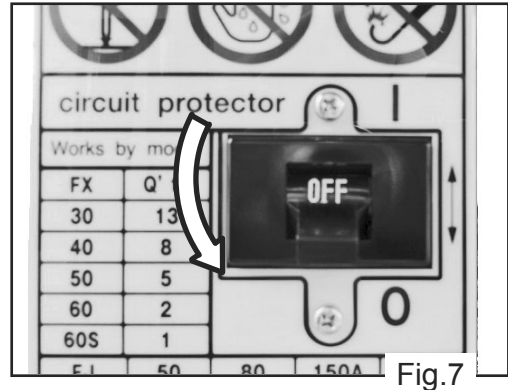

Fig.7
- 8.2 Turn off the switch of circuit protector (secondary side). (Fig.7)